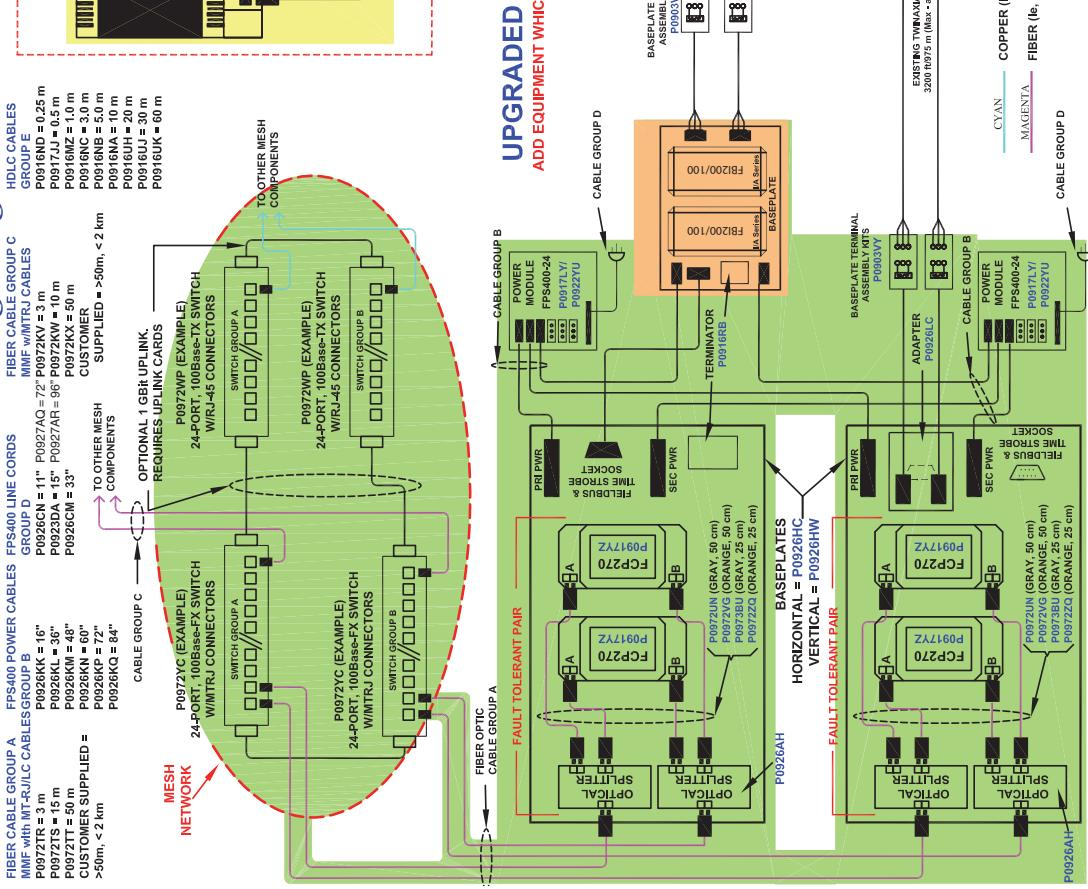

Figure A-8. Converting Micro-I/A Station to FCP270
- ◆ Figure A-8 “Converting Micro-I/A Station to FCP270” on page 91